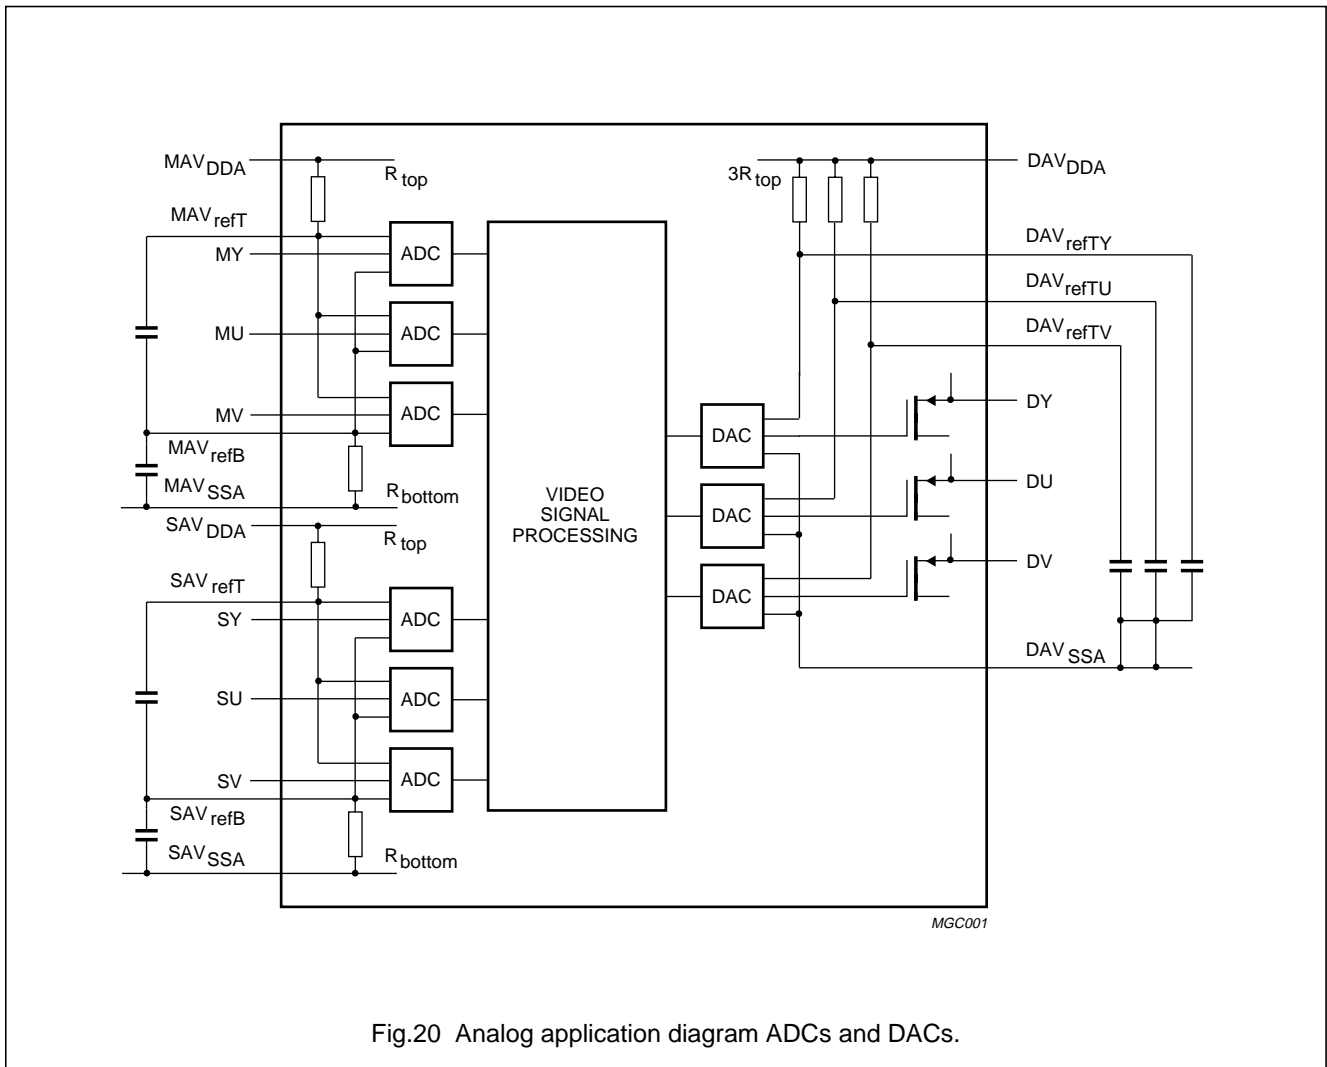

Fig.20 Analog application diagram ADCs and DACs.
- The input configuration of the ADCs is depicted in Fig.20. The minimum difference  $AV_{\text{refT}} - AV_{\text{refB}}$  should be larger than 1.0 V. The reference voltages can be calculated as follows:
Fig.20 shows how the ADCs and the DACs can be connected in the application.